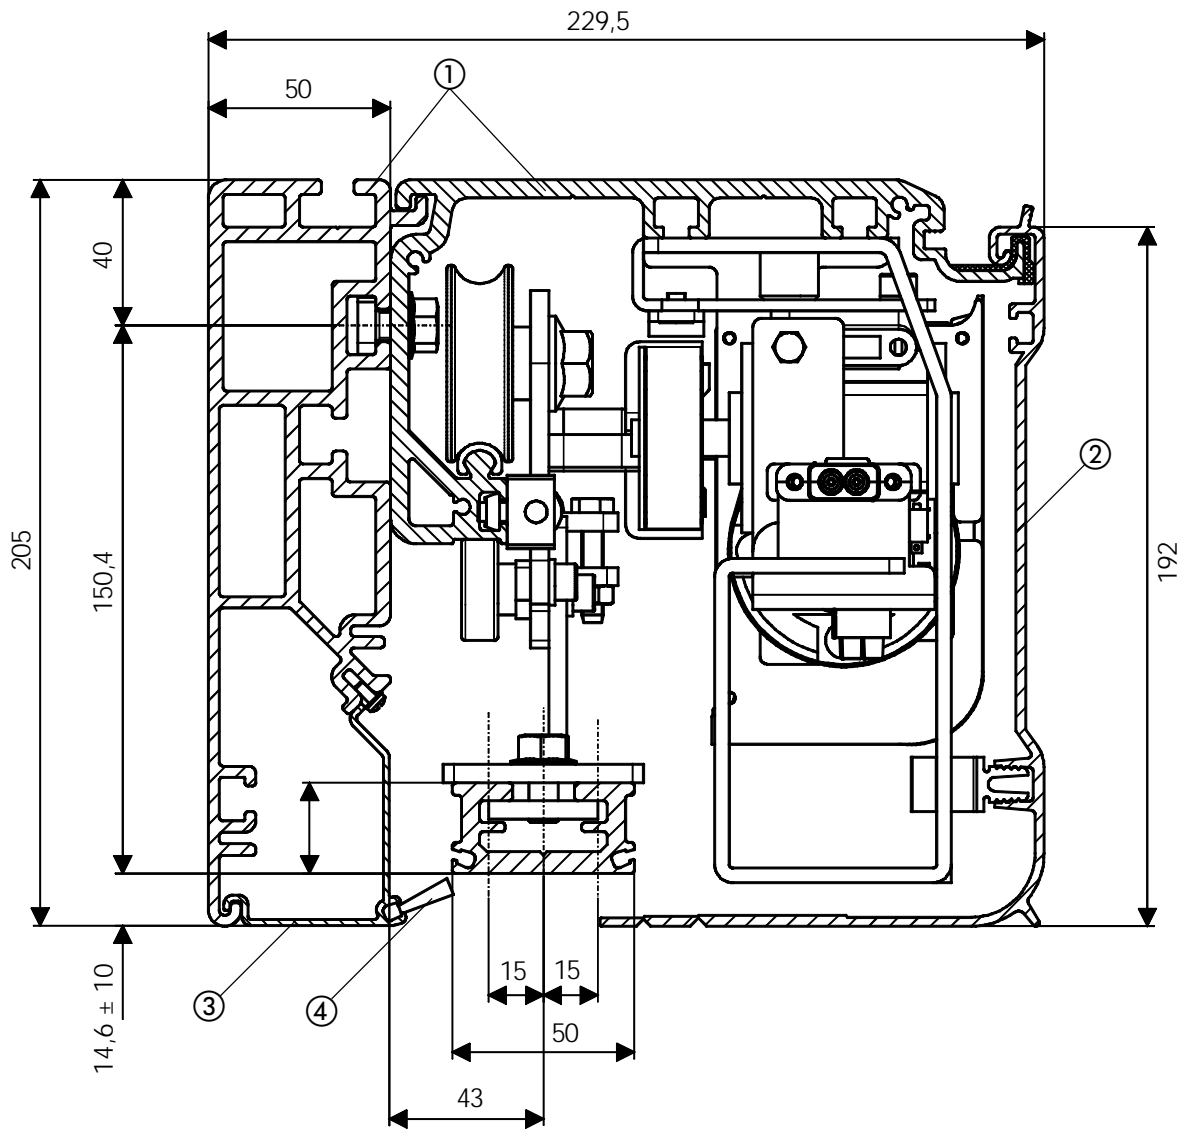

Fig. 3
### Profile SMA (fig. 3 ref. ①)
#### Closing profile for free-standing facility (fig. 3 ref. ③)